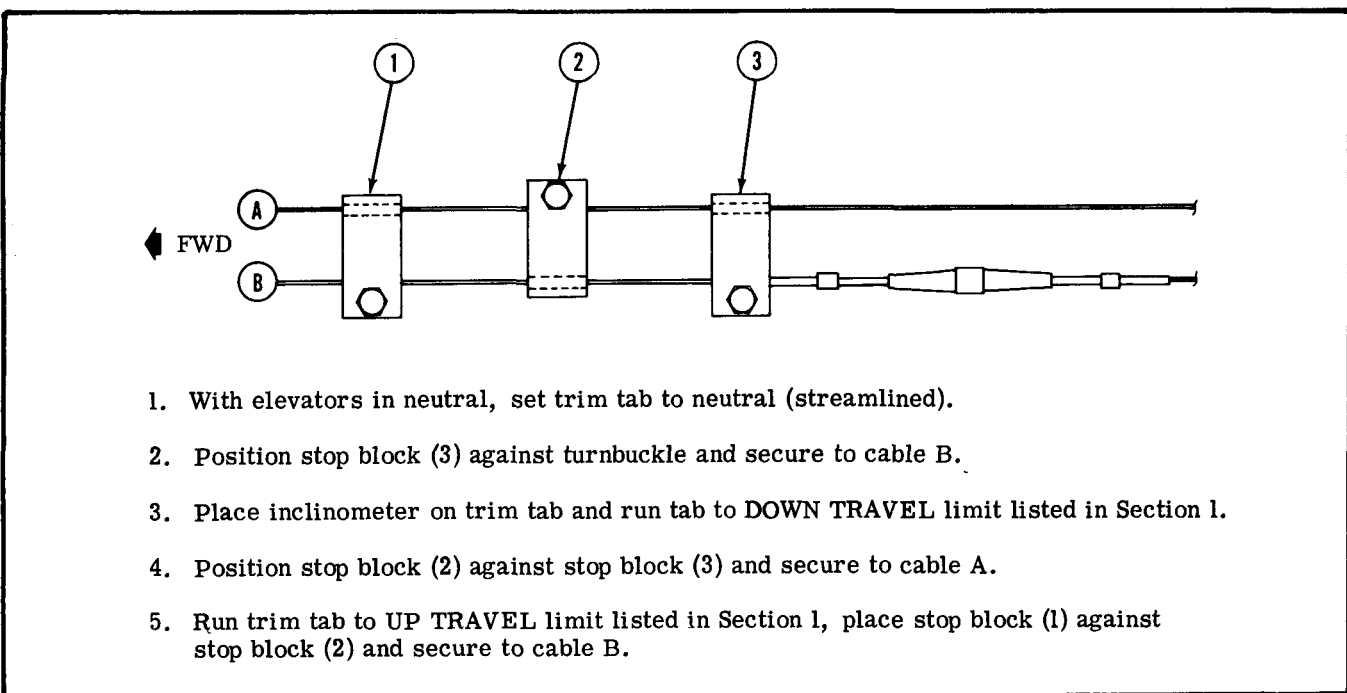

Figure 9-3. Elevator Trim Tab Travel Adjustment
- g. Rotate actuator screw in or out as required to place tab up with a maximum of 2° overtravel, with actuator screw connected to push-pull tube (12).
- i. Position stop blocks (16) and adjust as illustrated in figure 9-3 to limit travel to the degree specified in Section 1.